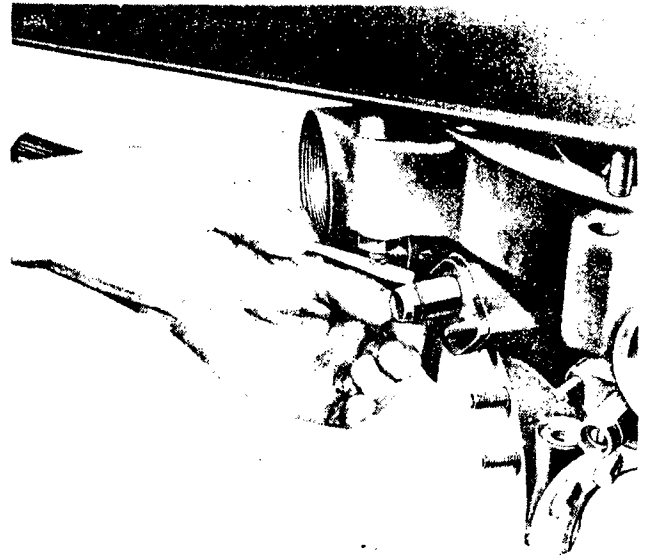
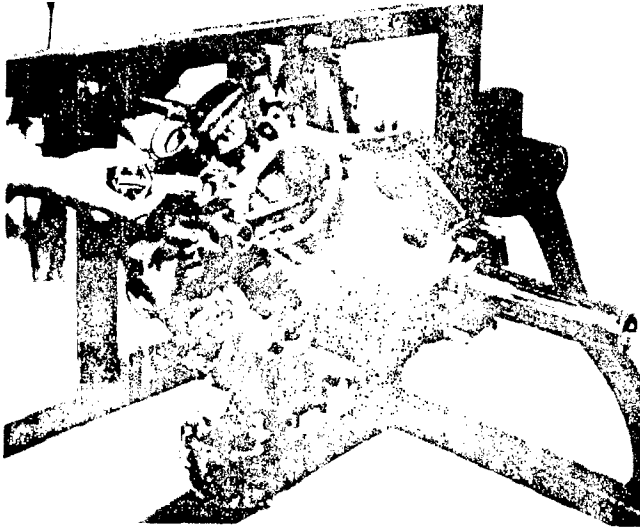

Figure 42—Removing Circlip from Cam Follower
Figure 43 — Removing Cam follower and Guide Assembly
(3) Remove cam followers by removing the circlip located near the outer end. (See figure 42.) Push the cam follower in toward the crankshaft far enough to clear the roller from the guide recess. Remove the pin and roller. Withdraw the cam follower and guide from the crankcase as an assembly. (See figure 43.) Reassemble the roller, roller pin, tappet and guide with the circlip so that these parts will remain together for inspection and subsequent reassembly.